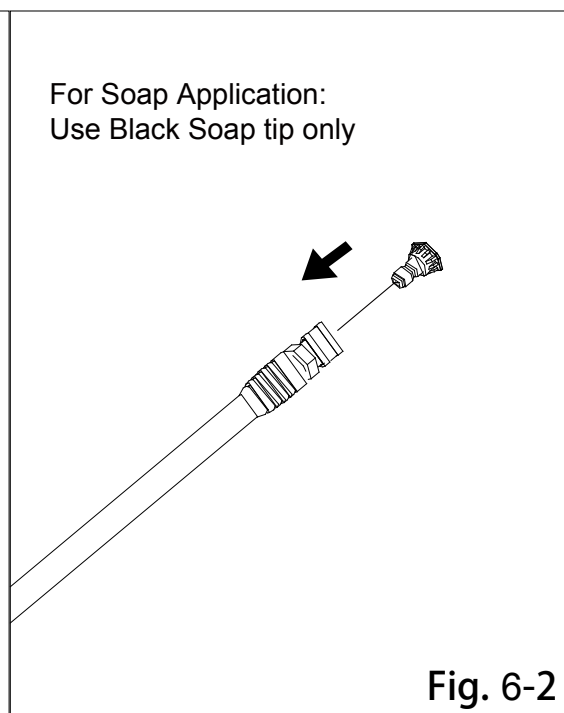

Fig. 6-2
- Connect black soap nozzle to the wand connector. (See Figure 6-2.)